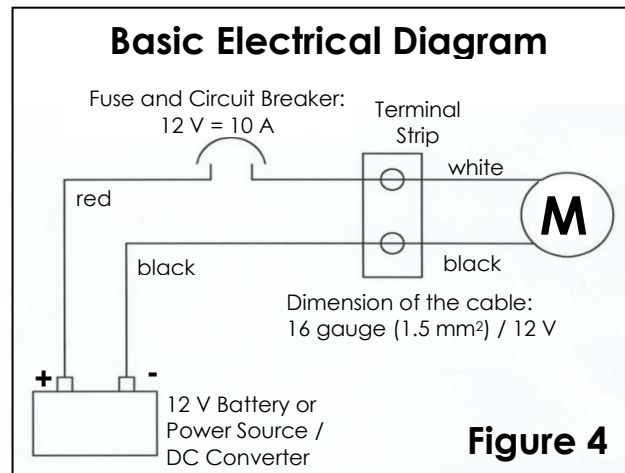

Figure 4
2. Connect Electrical Power to Pump: To provide 12 VDC electric power to the motor, use a minimum of 16 gauge (1.5 mm²) stranded copper wire. We recommend 14 gauge (2.5 mm²) (or larger) wire for distances over 20 feet (6 m). Tinned, stranded copper wire is preferred for marine installations and is available in most marine hardware stores. **Figure 4** shows a typical electrical power configuration.